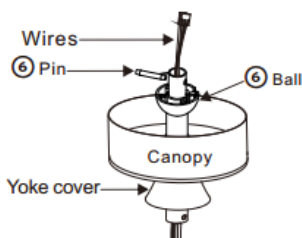

Fig. 6
6. Insert the hanging ball through the downrod and insert the pin back into the downrod. (as removed in step 1 and 2) (Fig. 6).
7. Tighten the jam screw back into the hanging ball and ensure it is tight (Fig. 6).